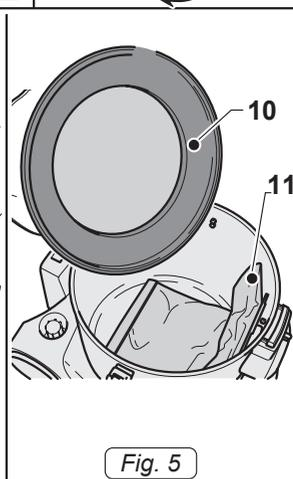
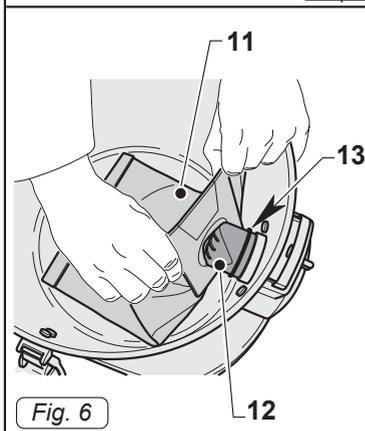

Fig. 5
Fig. 6
- Remove the polyester filter (10 Fig. 5).
- Check, if applicable, that inside the device to be set the paper bag (11 Fig. 5).
- If the paper bag (11 Fig. 5) is not there, install it, if necessary, acting as follows: Install the paper bag (11 Fig. 6) in the nozzle (12 Fig. 6) until it passes the banding (13 Fig. 6).
- Reassemble the polyester filter (10 Fig. 5).
- Remove the polyester filter (10 Fig. 5) if present.
- Remove the paper bag (11 Fig. 5) if present.